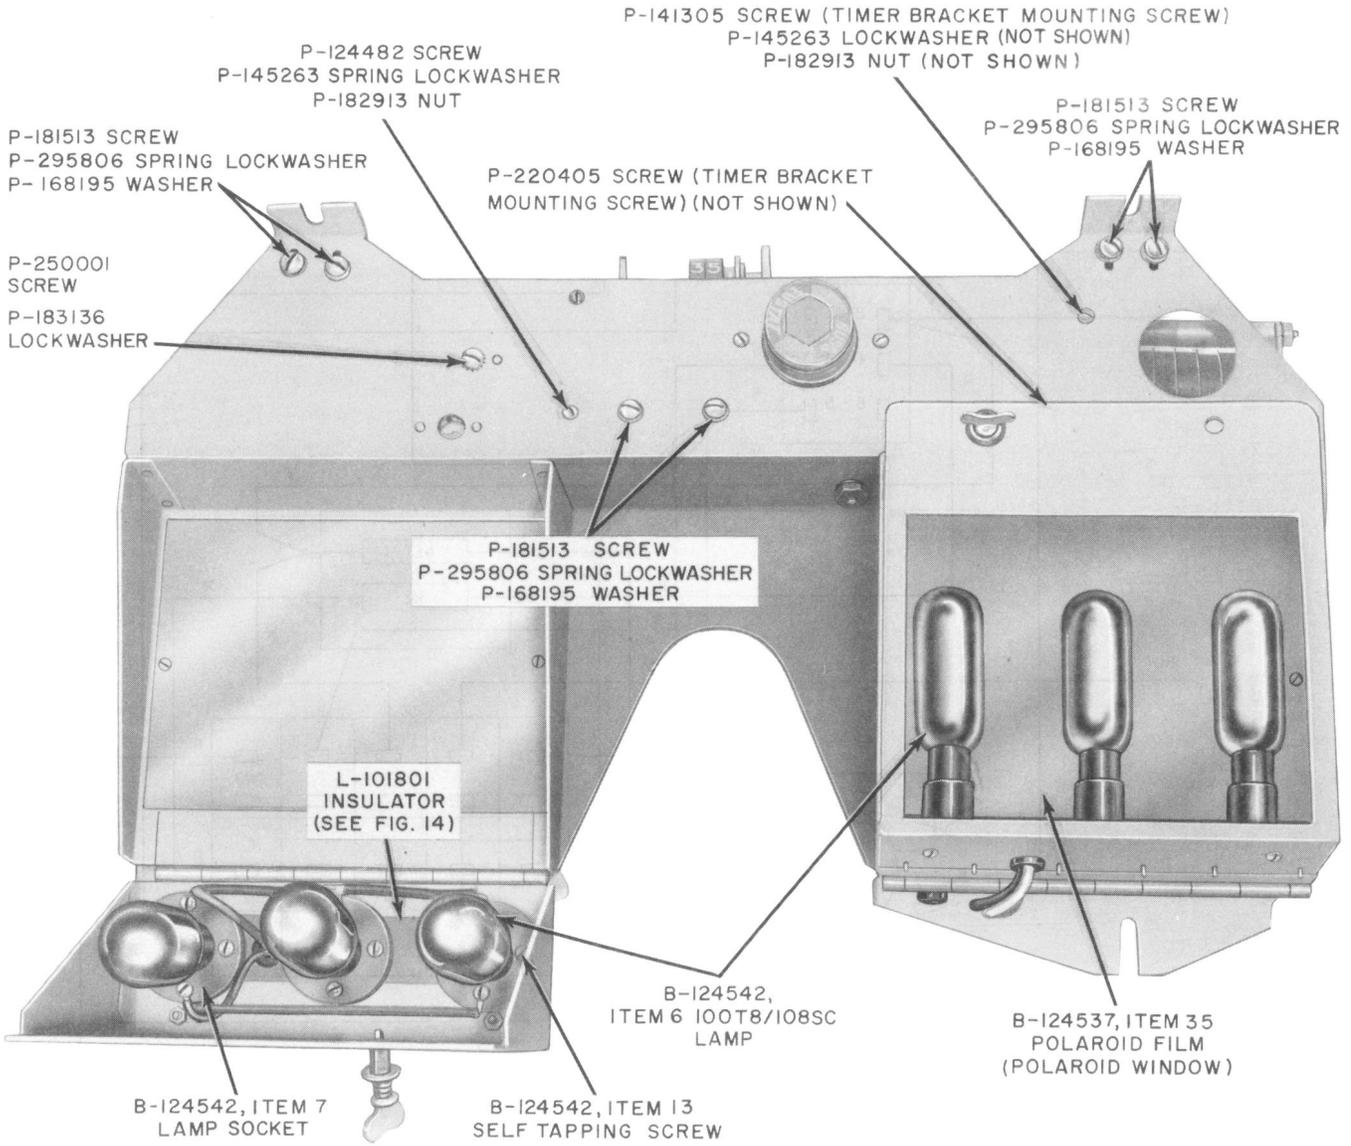

Fig. 4—Chassis Removed From Camera (Bottom View)
3.16 Lamp Socket: Fig. 4—Unlatch and swing open the lamp mounting frame. Remove the lamp from the socket. Using the 3-inch C screwdriver, disconnect the leads from the socket and remove the socket mounting screws. Remove the socket. Using the 81A test set and two 893 cords with 360A tools and 141 cord tips at each end, determine which terminal screw of the new socket is connected to the shell of the socket. Mount the socket with this terminal screw adjacent to the lamp frame hinge. Reconnect the leads to the socket.
3.20 Polaroid Window: Fig. 4—Unlatch and swing open the lamp mounting frame. Remove the three lamps. Apply sufficient inward pressure at the center of the vertical edges of the window to spring the window out of the slots in the frame. Insert the new window in the bottom slot, and spring the window into place in the top slot. Remount the lamps.